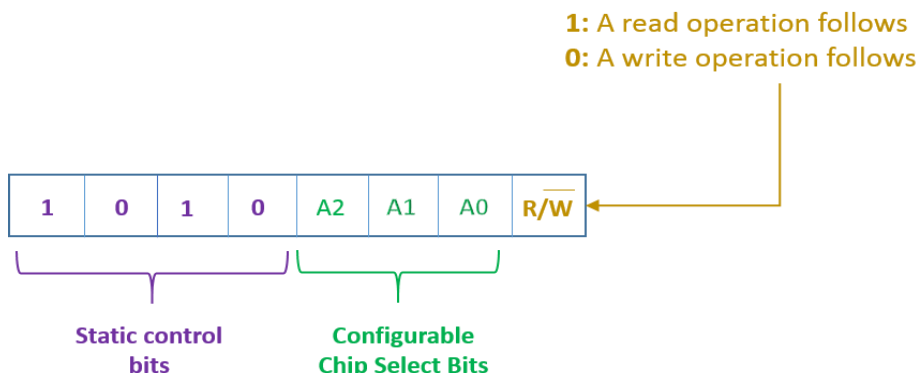

Figure 15: Control Byte of 24LC256 EEPROM Chip
4. Press the **K1** button on Pro DevKit and capture the I²C write transaction. Figure 15 illustrates only the first two of the total written bytes.
- Press the **K1** button again on Pro DevKit and capture the I2C read transaction. Figure 15 illustrates only the first two of the total read bytes.